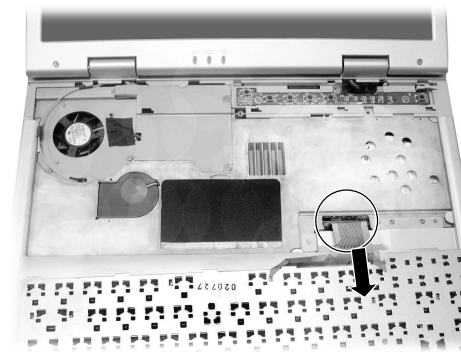

Figure 2-5 Remove keyboard
6. Slightly lift up the keyboard and disconnect the cable from the system board to detach the keyboard. (Figure 2-5)